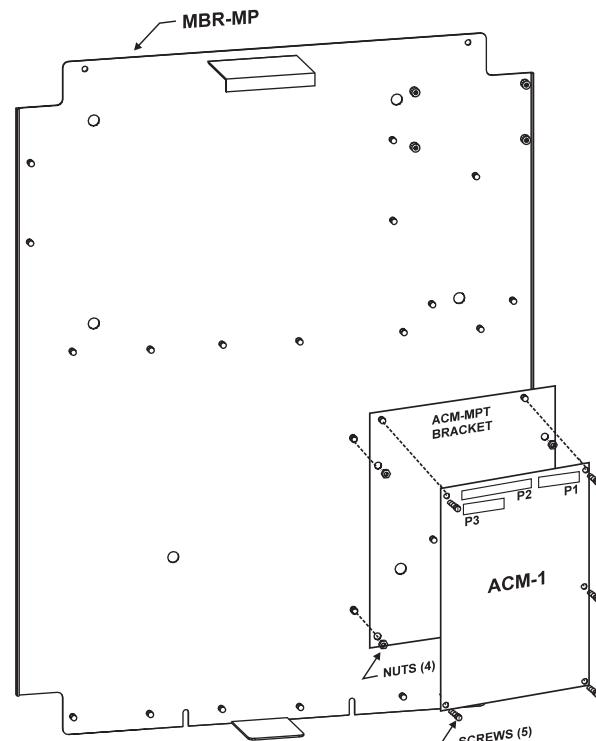

Figure 3
- Mount the ACM-MPT bracket on the 4 studs located in the lower right hand corner of the MME-3 backbox. (These are the same studs used for a TSP-40 printer.) Secure the bracket with the four nuts provided. (See Figure 3.)
- Be sure that P1 is in the upper right hand corner of the ACM. (Refer to Figure 3.) Mount the ACM-1 PC board over the six threaded mounting spacers.
- Fasten the module in place with the five No. 6 screws provided (one of the spacers is used for support). (Refer to Figure 3.)